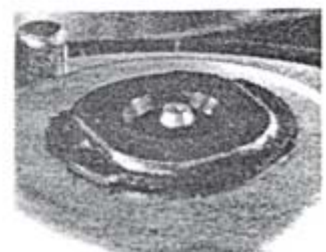

Fig. 13
4. On models GCM40 and GCM60 there is an additional grease fitting on top of the belt pulley as shown in fig. 13.